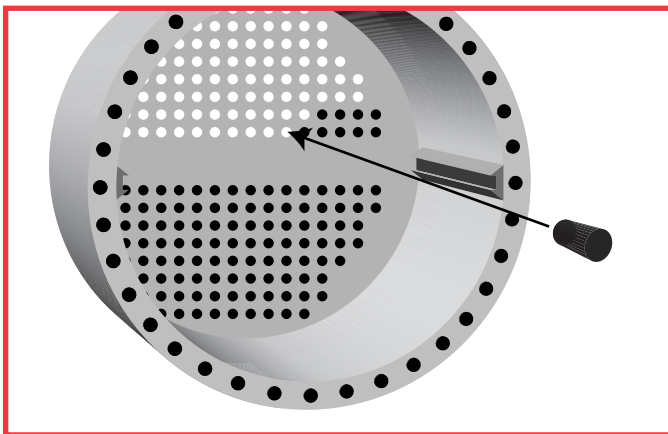

Figure 31. Install stoppers flush with the ends of the tubes.
- 1. Install stoppers.** Remove the end plates and baffles, and insert rubber stoppers into the end of the tubes. The stoppers should protrude no more than 1/8" (3 mm). This clearance will allow for a 1/8" coating of epoxy, as illustrated. (See figure 31)